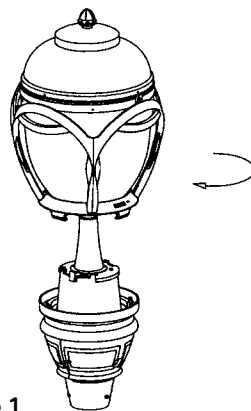

Figure 1
1. Remove globe by rotating counter-clockwise approximately 90° and raising off locking ring (see Figure 1)
1. The complete globe and/or globe assembly may be removed by following instruction given in GLOBE REMOVAL/INSTALLATION section (see Figure 1).